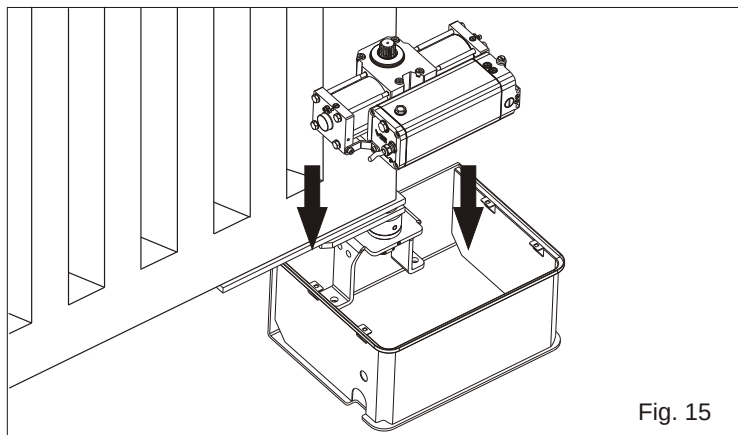
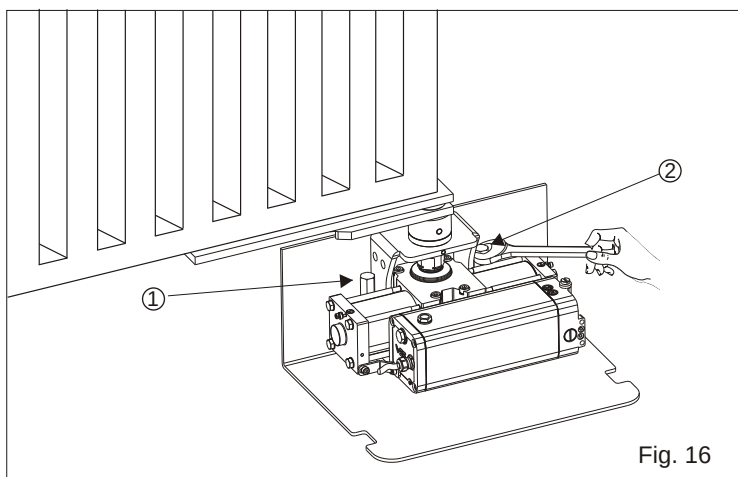

Fig. 15
Fig. 16
4.1. Insert manually the operator into the carrying box (Fig. 15) also insert the splined shaft of the operator into the splined bush of the box and fix the operator with the special screws as in Fig. 16.